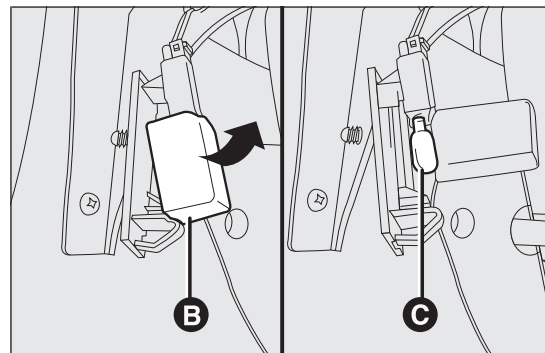

fig. 125
- ☐ open the bulb cover B fig. 125 and replace the pressure-fitted bulb C fig. 125;